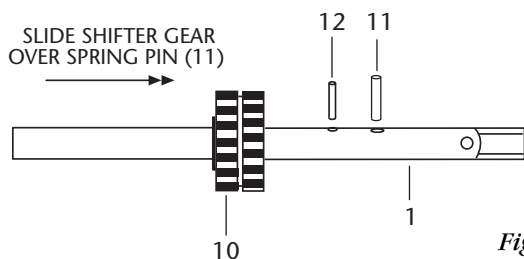

Figure 12
1. Install pin (*Item 11*) through crankshaft (*Item 1*) and slide the shifter gear (*Item 10*) in place with the recess in the shifter gear over the pin. Now, secure the gear in place using the retaining pin (*Item 12*). See *Figure 12*.